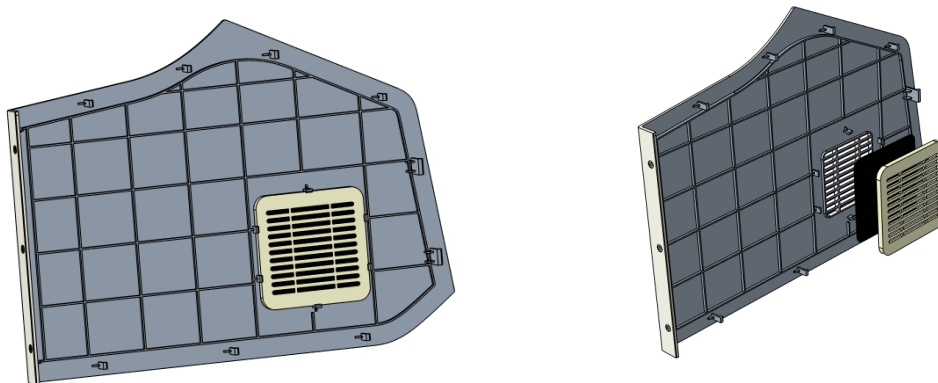

Fig. 7.2 Remove the Filter on Side Panel
3. Gently take the filter cover off from the housing as shown in Figure 7.2